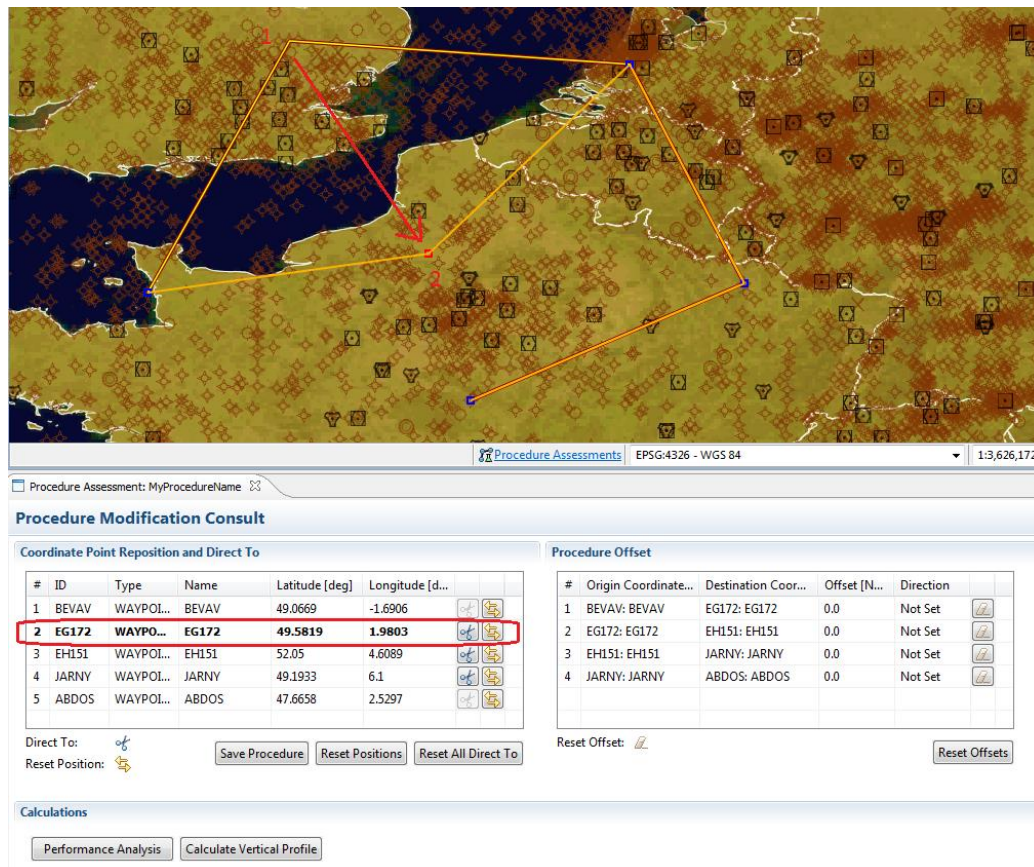

Figure 190: Procedure Assessment (Coordinate Points Reposition)
The user is able to change position of any Procedure's Coordinate Points (Figure 190). Click any procedure's coordinate point (1) and drag it a new position on the map (2). This will change the previously selected procedure. Note that the coordinate point that has been selected on the map, is automatically highlighted on the "Coordinate Point Reposition and Direct To" list (3):